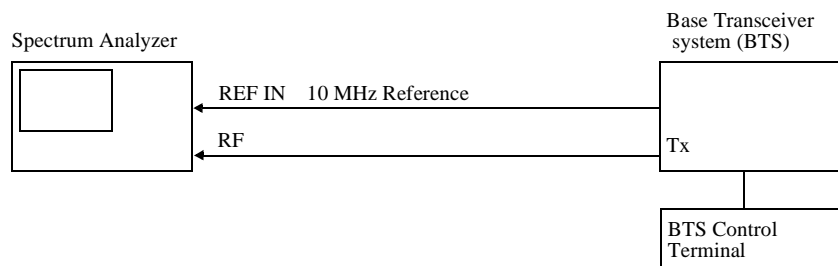

Figure 2-40 Setup for Primary CPICH Power Measurement
1. Connect the unit under test as shown in Figure 2-40.